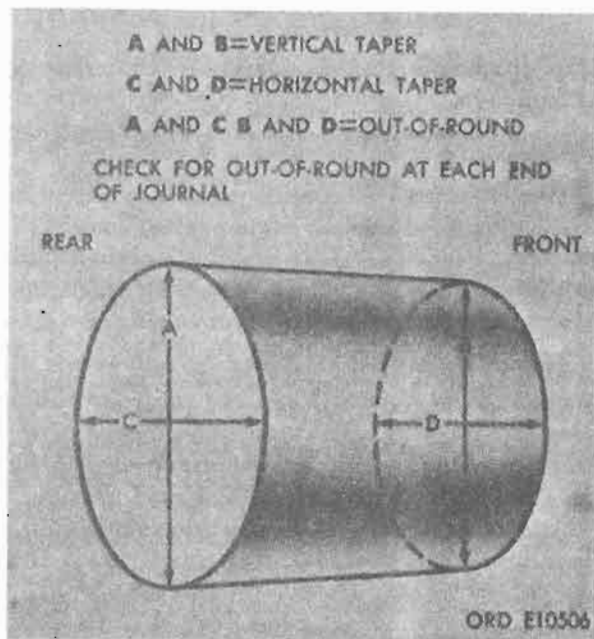

Figure 4-178. Crankshaft journal measurement.
(2) Inspect main and connecting rod journals for cracks, scratches, grooves, or scores. Dress minor imperfections with an oilstone. Replace shaft having severely marred journals.
(3) Measure diameter of each journal in at least four places to determine out-of-round, taper, or undersize condition (fig. 4-178).
(4) If journals exceed wear limits (table 4-9) shaft should be replaced.